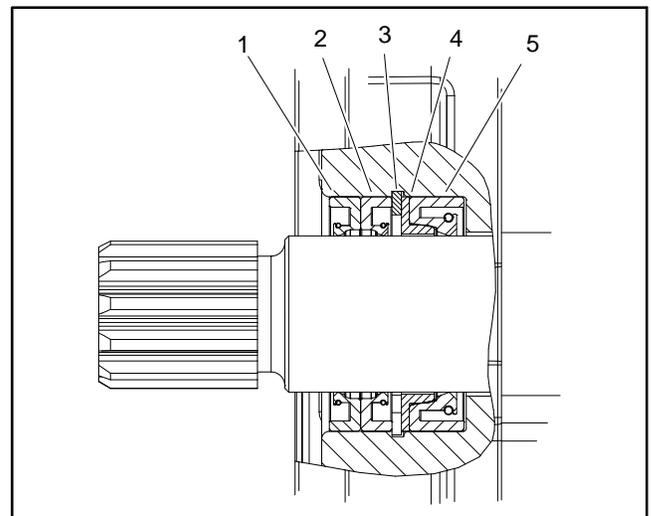

Figure 73
11. Carefully remove dust seals, retaining ring, flange washer and shaft seal from the front flange (Fig. 73). Discard removed seals.
2. Install new seals into front flange (Fig. 73):